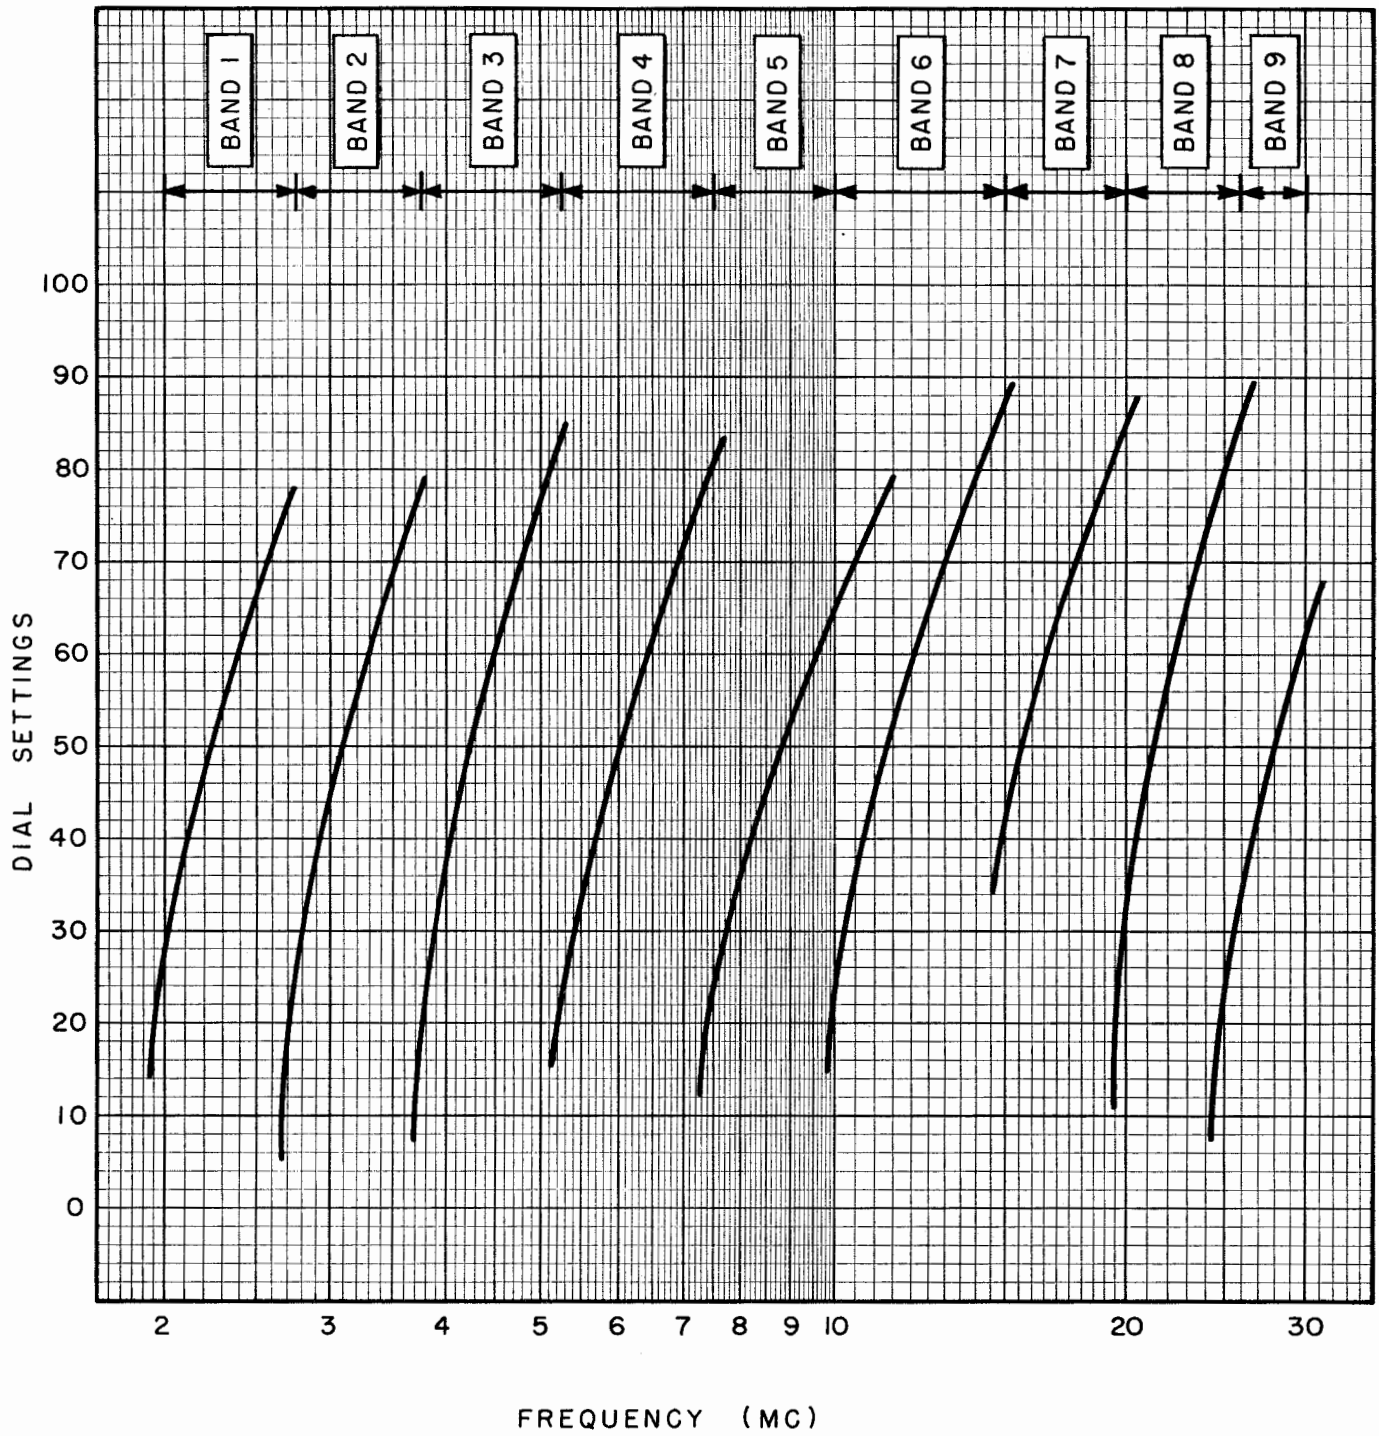

Figure 4-4. PA Tuning Calibration (Typical)
Step 19. Set P. A. TUNING control to the reading obtained from the PA Tuning Calibration, figure 4-4. Do not lock.